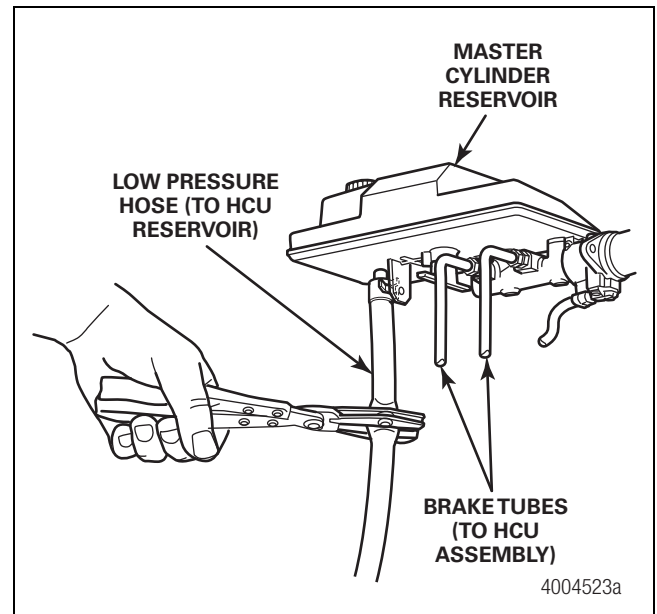

Figure 11
6. Attach a pinch clamp to the low pressure hose near the outlet to the master cylinder reservoir. Do not damage the reservoir outlet. Figure 11.